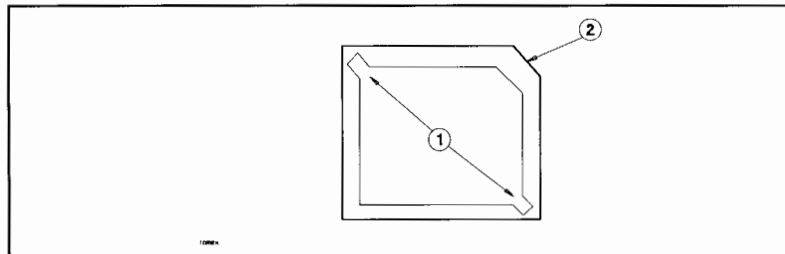

Figure 8-57. ROM Socket
To remove the firmware ROM (see Figure 8-57):
To replace the firmware ROM (see Figure 8-57):
1. Match the beveled corner of the ROM with the locator key in the socket (see Figure 8-57).